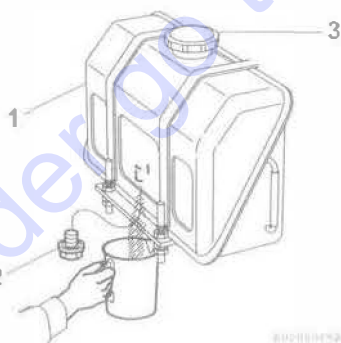

Figure 7
1. Position an approved container under the diesel fuel tank (1, **Figure 7**) to collect the contaminants.
2. Remove the fuel cap (3, **Figure 7**).
3. Remove the drain plug (2, **Figure 7**) to drain the contaminants (water, dirt, etc.) from the bottom of the tank.